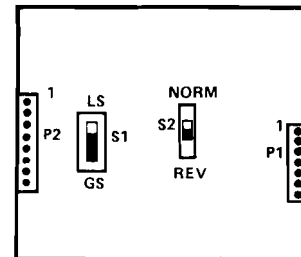

figure 2. Option switch locations
3.03 No alignment of the 9961BR subassembly is required. Before the subassembly is placed into service, however, two option switches must be set. Locations of these switches on the subassembly are shown in figure 2.